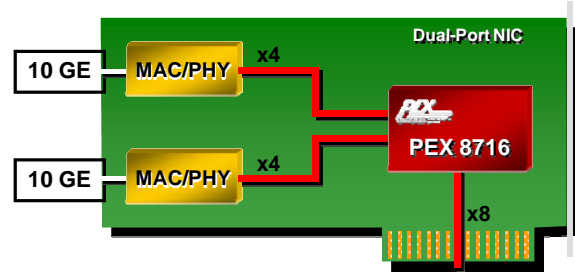

Figure 7. 10GE NIC Fan-Out
The PEX 8716 can also be utilized in communications applications such as Network Interface Cards (NICs). NICs, like the one shown in Figure 7, can utilize the PEX 8716 for its fan-out capabilities. In the example below, the PEX 8716 is being used on a Dual-port 10-Gigabit Ethernet (GE) NIC card. The PEX 8716 utilizes a x8 link to connect to the host and two x4 downstream links to fan-out to the 10GE ports. The peer-to-peer communication feature of the PEX 8716 allows the endpoints to communicate with each other without any intervention or management by the host.